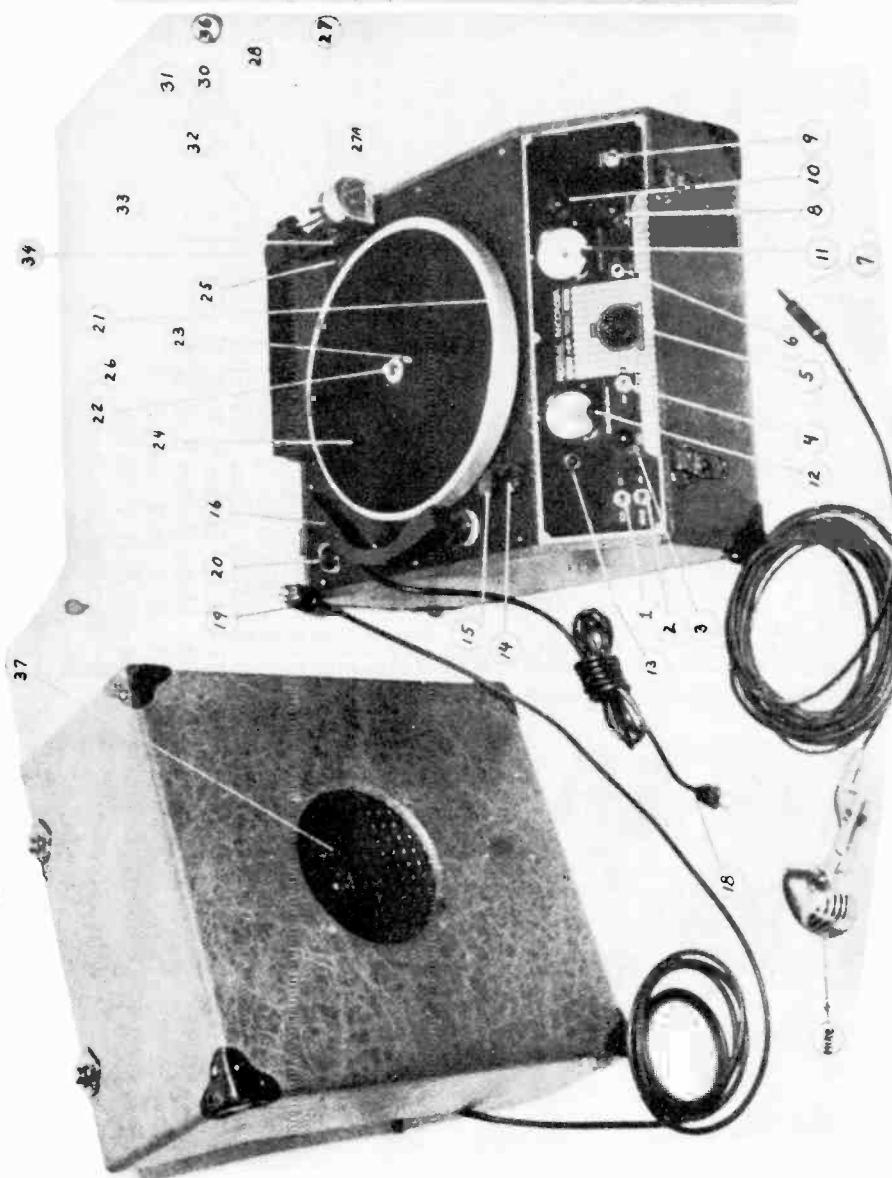

Figure 1
Since the radio tuner and amplifier are of the high fidelity type for express purpose of making true radio recording, it cannot be used with the same flexibility and type of control as is a commercial type home radio. The tuner does not have as good sensitivity or selectivity as the 9 or 10-tube superheterodyne commercial receivers nor will it control with the same ease. However, with the station properly tuned in, the fidelity will greatly surpass the commercial receiver. The radio tuner is purposely built this way to insure exact reproduction of the radio program, even though a little care is required to set the station properly tuned in. An antenna about thirty feet long will give satisfactory results. Connect to antenna binding post (25) in Figure 1.
AFTER COMPLETING A RECORDING AND JUST BEFORE CLOSING IT UP TO MORE TO ANOTHER POSITION MAKE SURE THAT THE CENTER THUMB NUT (22 OR FIGURE 1) IS TIGHTENED. THIS HOLDS THE TURNTABLE FAST ON THE SPINDLE, PREVENTING IT FROM FALLING OFF AND DOING DAMAGE TO THE REST OF THE MACHINE.